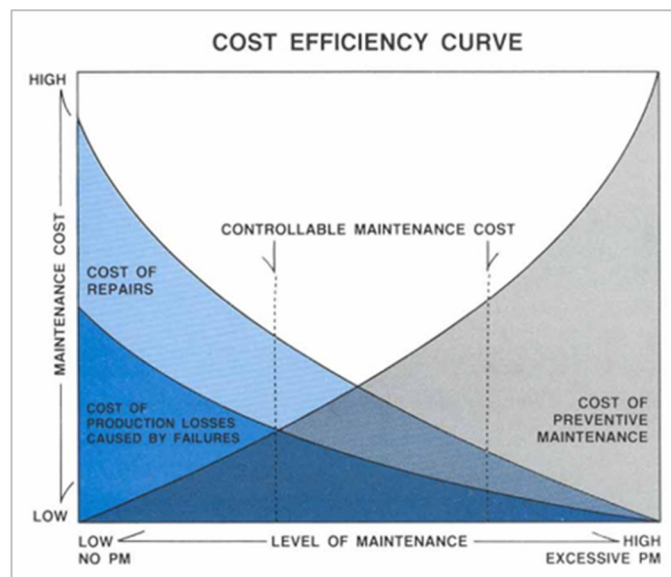

Figure 1. Maintenance Cost Efficiency Curve
- Develop a sustainable maintenance program that will extend asset life and reduce overall facility operations costs; (see Figure 1).